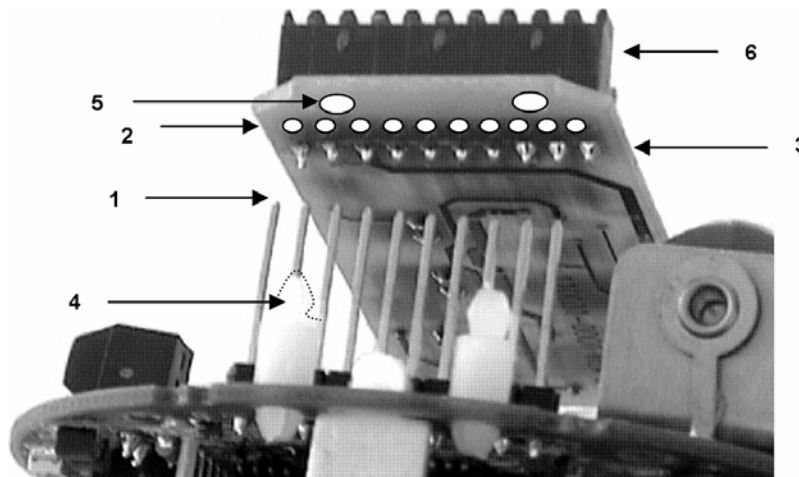

Figure 21
Step 3) Install the new output board: Align the ten pins on the back of the register (1) with the pin connector holes (2) on the end of the new 4-20mA analog output board (3). Push the board down until fully engaged with the pins (1). (Figure 21)
Verify that all 10 pins on the main board protrude through the 10 holes in the 4-20mA board connector and the board is fully seated on the standoffs (see SECTION 5.2, Figure 21).